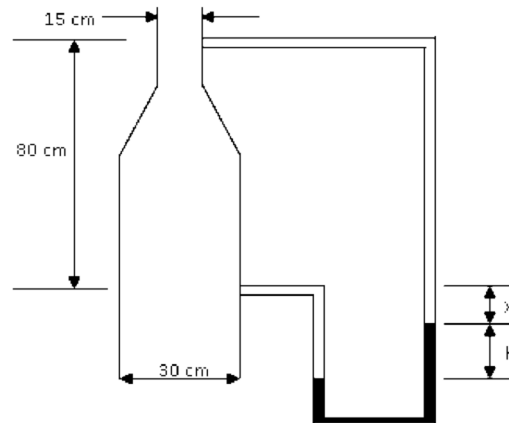

Figure Q7
- c) Water flows up a tapered pipe as shown in Figure Q7. Find the magnitude and direction of the deflection  $h$  of the differential mercury manometer corresponding to a discharge of 120 litres/s. The friction in the pipe can be completely neglected. Take relative density of mercury as 13.6. (7 marks)